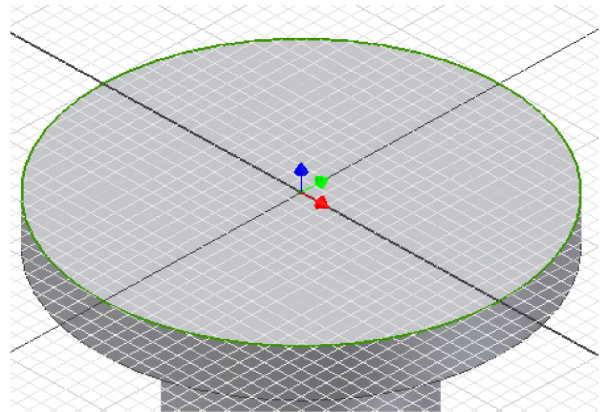

**Figure Step 8A**
**Step 8** After you select the axis, the REVOLVE command will display the Base Solid model as it is revolved. If this is the desired outcome, click OK. (Figure Step 8A and 8B)